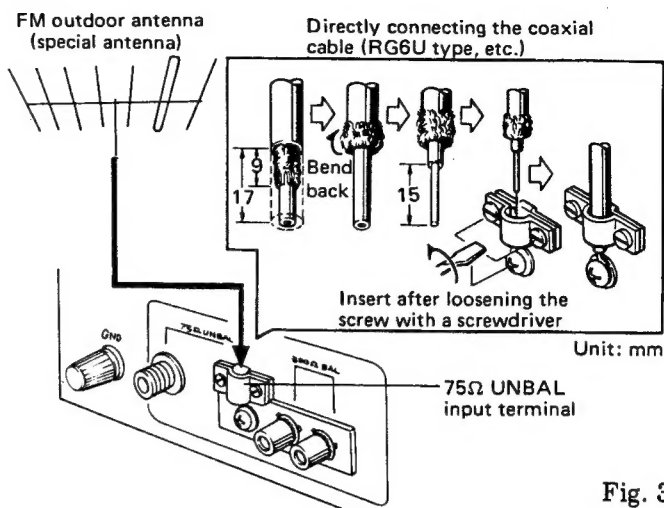

Fig. 3
**Directly connecting the cable to the antenna input terminal:** Refer to Fig. 3 and follow the procedure. Prepare the tip of the coaxial cable and connect it to the antenna input terminal (75Ω-UNBAL).